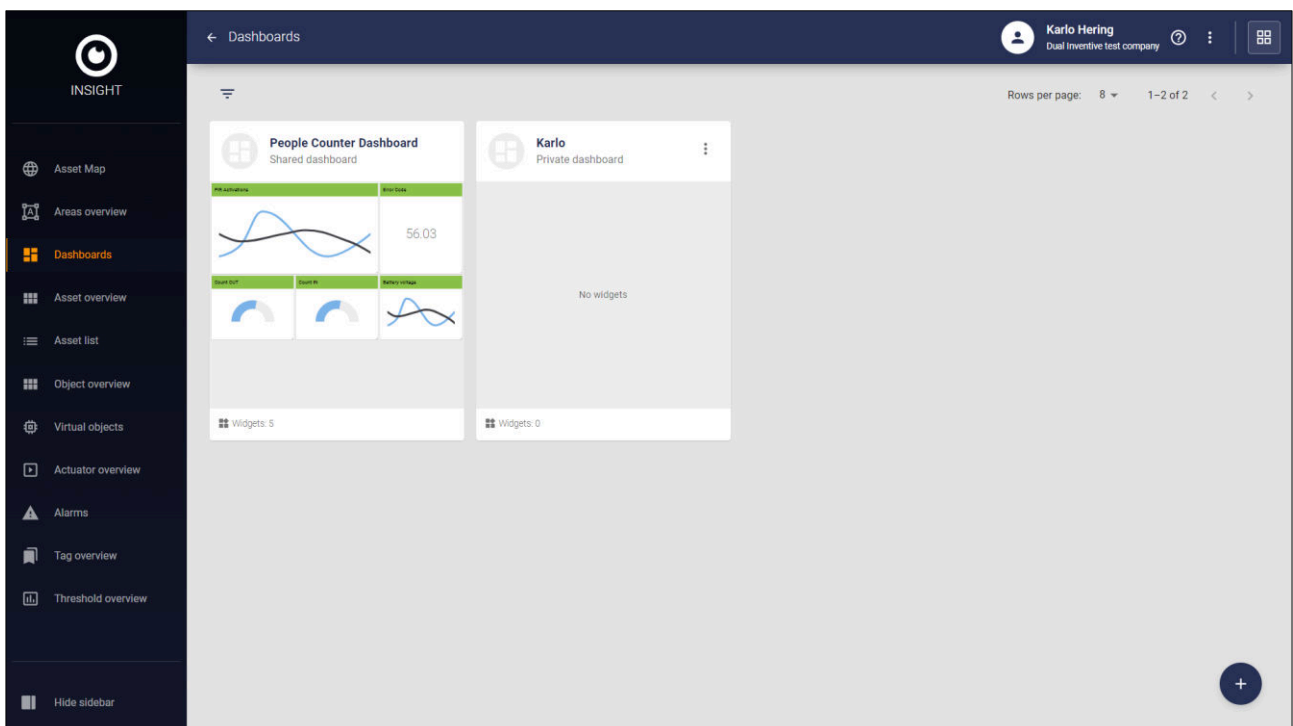

Figure 6-12: Dashboards
1. Click the dashboard (see Figure 6-12) for which you want to add one or more widgets.
1. Click this button (see Figure 6-12) to edit the current dashboard. Note: only the user who created the dashboard can edit it.